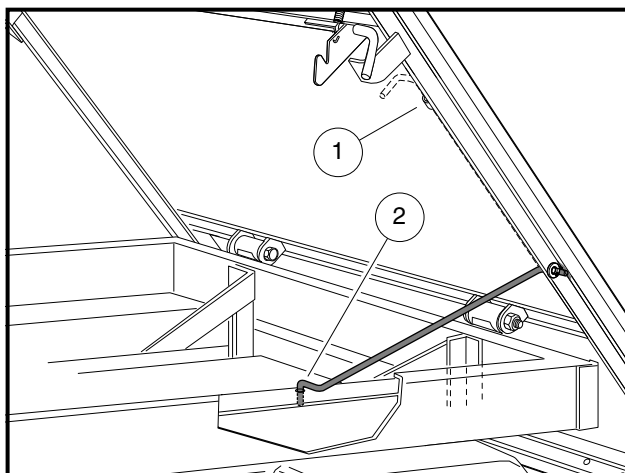
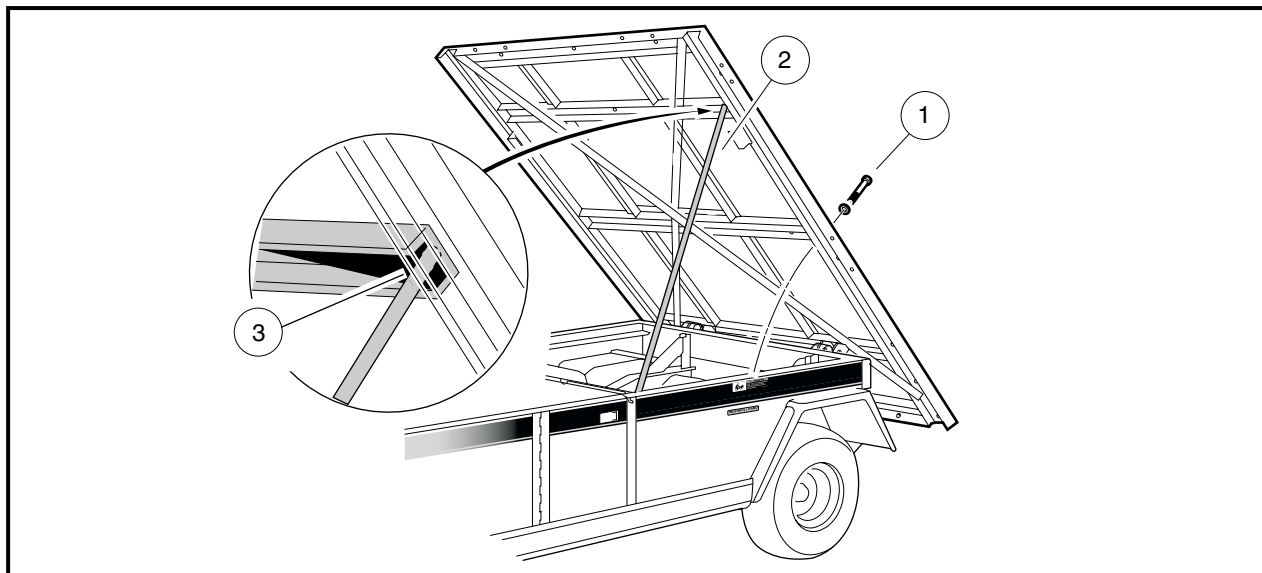

Figure 11 Carryall 1 Prop Rod
Figure 13 Carryall 6 Prop Rod
NOTE: The Carryall 1 (Figure 11, Page 29) and Carryall 6 (Figure 13, Page 29) are equipped with manual prop rods, unless equipped with an electric bed lift option.
Carryall 1 Only: When lifting the bed of a Carryall 1 vehicle, remove the prop rod from the clip (1) and insert into hole (2) in inner body (Figure 11, Page 29). See following **DANGER**.
Carryall 6 Only: Remove the two bed hold-down bolts (1) and close the access door. Lift the bed of the vehicle, remove the prop rod (2) from the clip and engage the prop rod as shown (3) (Figure 13, Page 29). See following **DANGER**.
Carryall 6 Only: Secure the prop rod in the prop rod clip and gently lower the bed. **DO NOT** drop the bed. Install the bed hold-down bolts (1) and tighten them to 8 N·m (75 in·lb) (**Figure 13, Page 29**). **See following WARNING.**